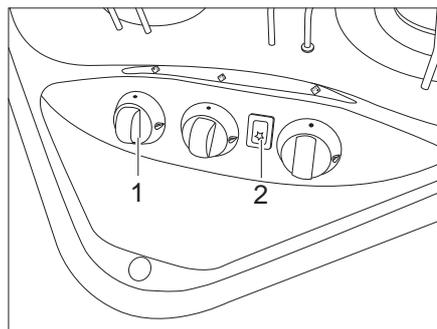
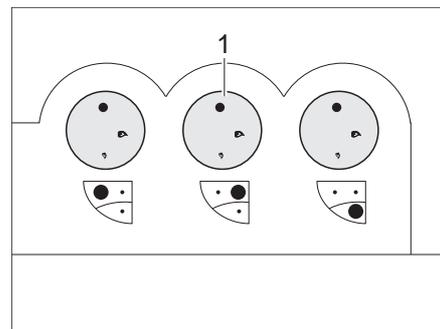

Fig. 137 Operating controls for gas cooker
Fig. 138 Alternative: Operating controls for gas cooker
- Turn the control knob (Fig. 137,1 or Fig. 138,1) on the burner you wish to use to the ignition position (large flame).
- If an ignition button (Fig. 137,2) is present: